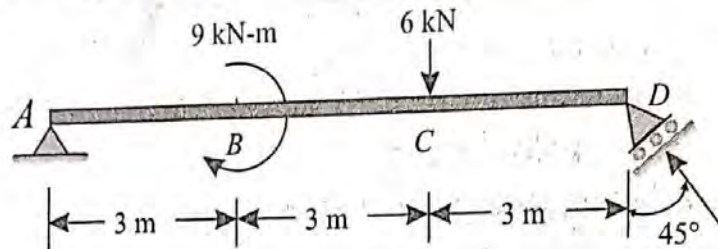

Fig. 9.25.
**Example 9.10.** Fig. 9.25 shows a beam ABCD simply supported on a hinged support at A and at D on a roller support inclined at  $45^\circ$  with the vertical.